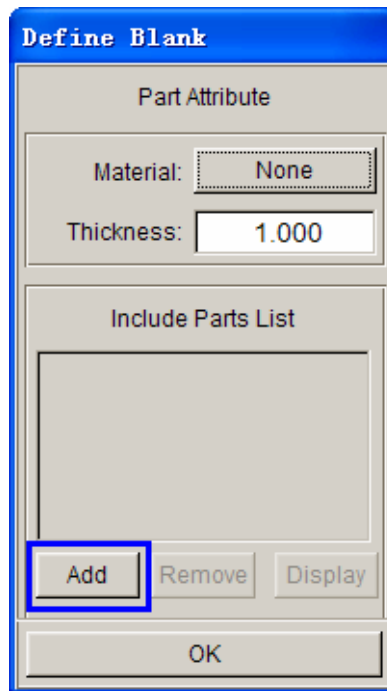

Figure 3.12: Define Blank dialog box
- 1) Select “Sheet” from the MSTEP dialogue window, then pop up the Define Blanks dialogue window; select “Add” to add the corresponding part to the sheet-metal tool. See figure 3.12.